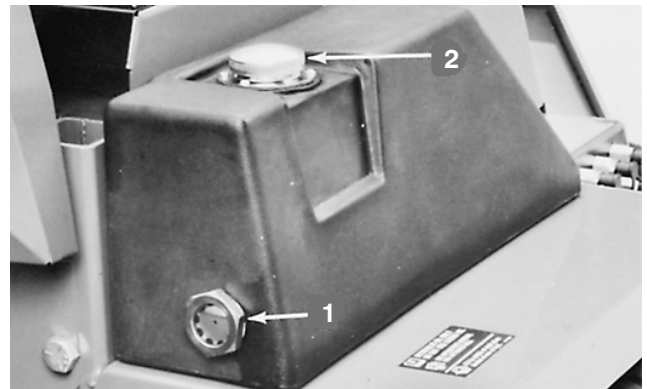

Figure 10
1. Fluid level should be checked daily through sight glass at rear of hydraulic reservoir (Fig. 10). When oil is cold, level will be slightly below center, but should be in the middle of the sight glass when the oil is warm.
2. If oil level is low, add hydraulic oil to the reservoir (Fig. 10); refer to Servicing the Hydraulic System, page 45.